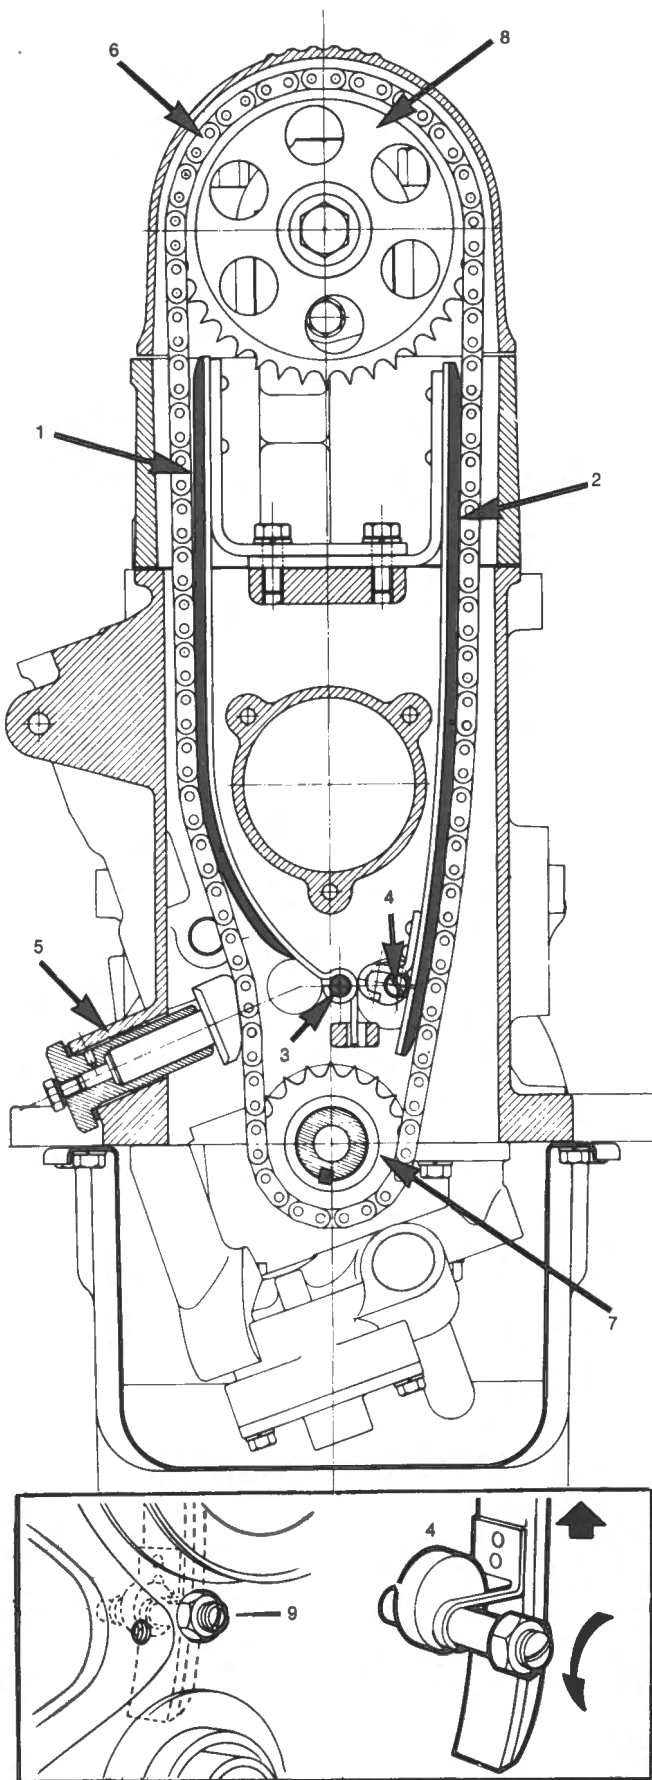

Fig. E-21
- 7 Remove the guide and retaining bolts Fig. E-21.
KEY TO FIG. E-21